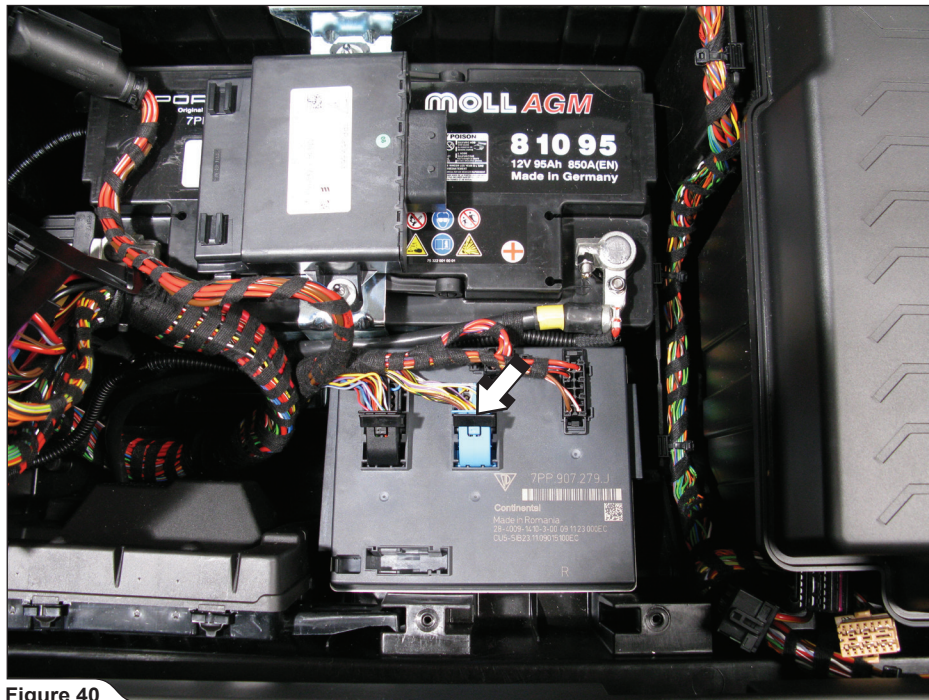

Figure 40
4. Pull the ECU unit out of the socket and disconnect the blue connector (**Figure 40**).